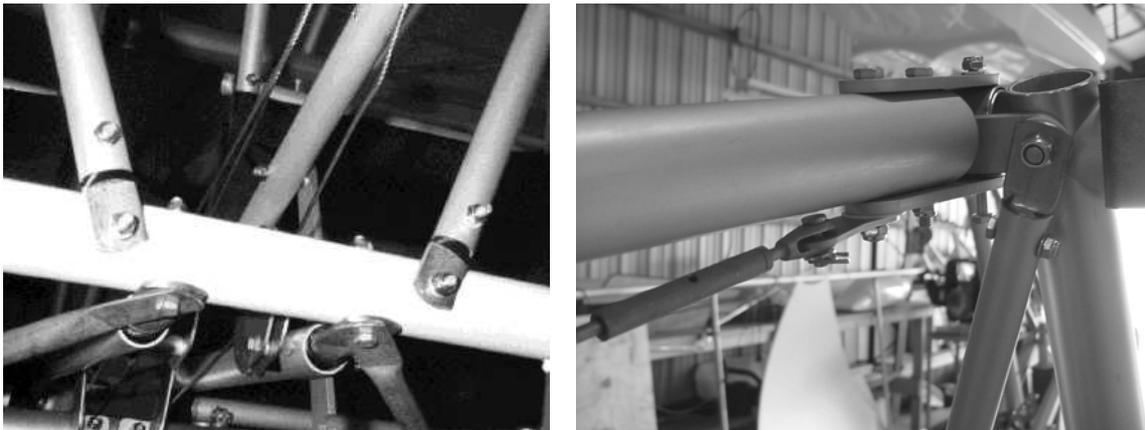
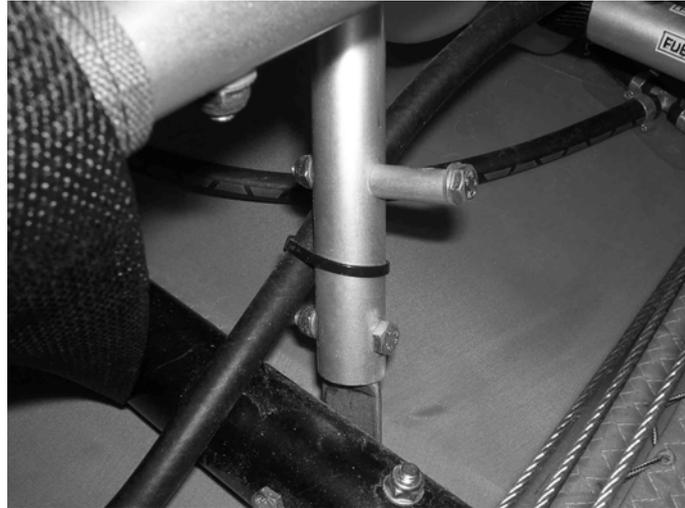
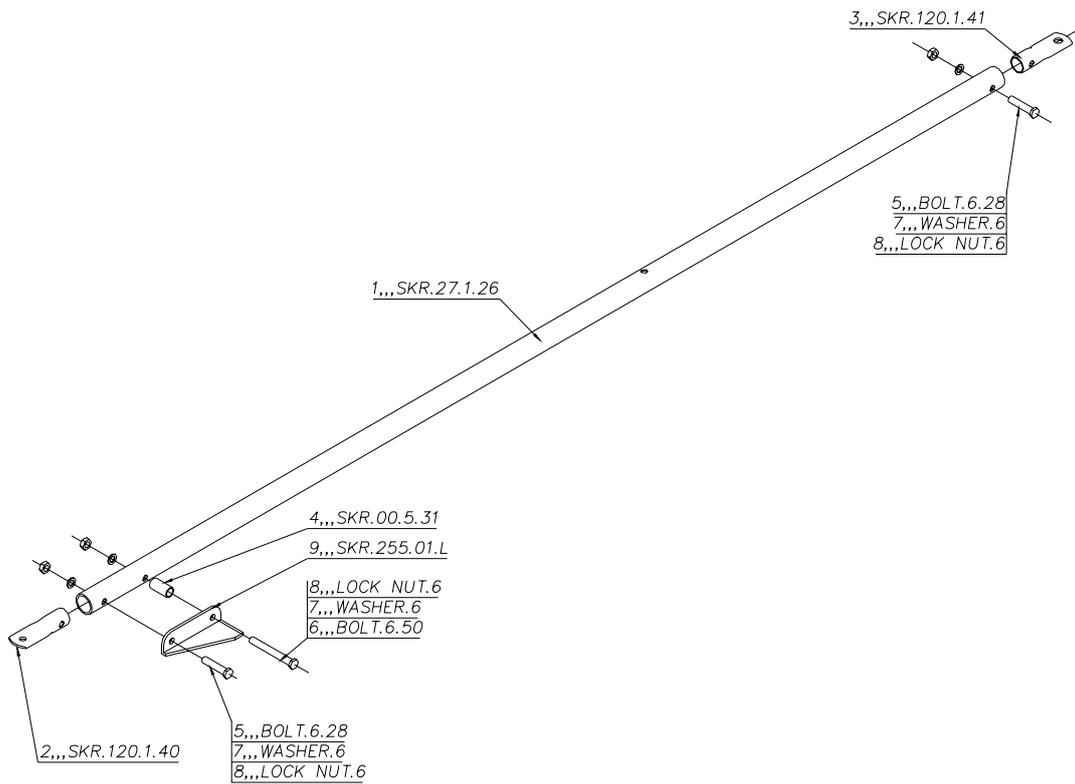

Figure 27; lower and upper ends of rear cabin frame diagonals.
Figure 28; seat support peg.
Figure 29; rear cabin frame diagonal, port side viewed from rear.
Refer to Figure 10, Figure 27 and Figure 29.
- b) Install the bolt and spacer to support the seat a short distance above the lower ends of the rear cabin frame diagonals **tu27**, Figure 28, or alternatively the small bracket pieces shown in Figure 29 (kit may be supplied with either option).
These should be oriented with the supporting part towards the front of the aircraft. Note that the spacer tube is also shown on Figure 29 as well as the small bracket piece. Only one or the other is required!
Attach the lower ends to the rear of the main undercarriage cross-beam **tu9**. Refer to figure 27 and Figure 28.
*Note the bolts through **tu9** should point upwards, and should pass through the stainless-steel under-seat diagonal tubes **tu42** (refer to Figure 27 and the tube numbering drawings at the start of this chapter) before passing through the central cabin tubes **tu19** and the main undercarriage cross-beam **tu9**.*
*The bolts through **tu9** should point upwards, and should pass through the stainless-steel under-seat diagonal tubes **tu42** (refer to Figure 27 and the tube numbering drawings at the start of this chapter) before passing through the central cabin tubes **tu19** and the main undercarriage cross-beam **tu9**.*